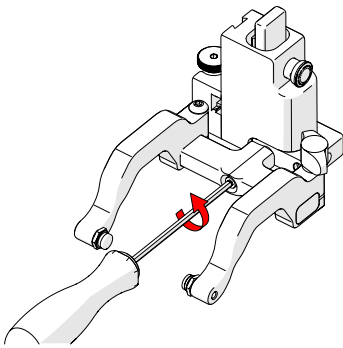

Fig. 119 - Remove yoke
1. Using the supplied 3 mm driver, unscrew the yoke (Fig. 119).